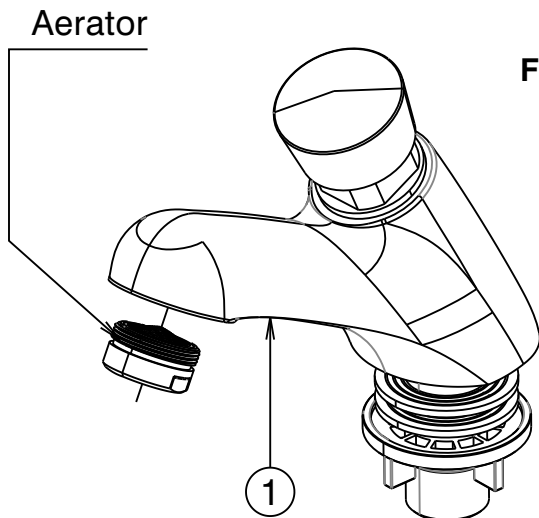

Fig.1
- * Body (1) is fitted with a flow regulated aerator insert. This low flow rate may not be suitable for connection to some Instantaneous Gas Water Heaters, some Tempering Valves, some Solar Water Heaters & some Thermostatic Mixing Valves. Check with the manufacturers of these products. The flow regulator can be accessed as shown (Fig.1).